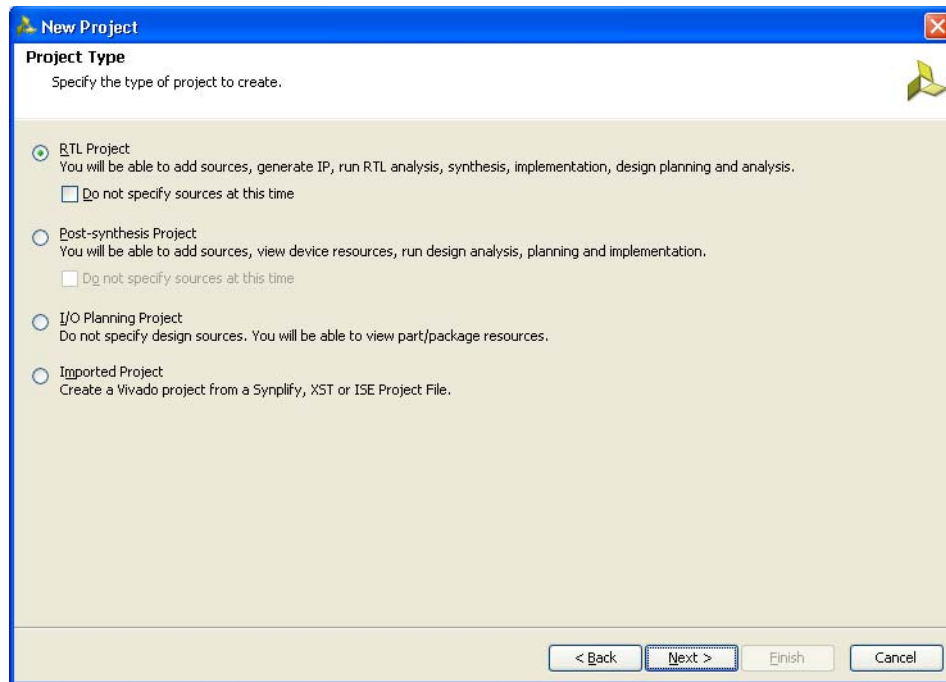

Figure 5-4: Project Type
- Click **Next** to proceed to the **Project Type** page (Figure 5-4). Select the **Project Type** as **RTL Project** because MIG deliverables are RTL files.